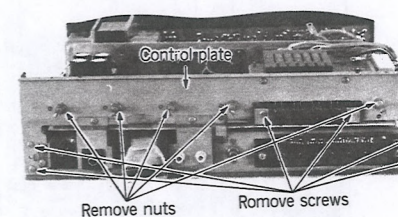

Fig. 8
2. Remove screws and nuts shown in Fig. 8.